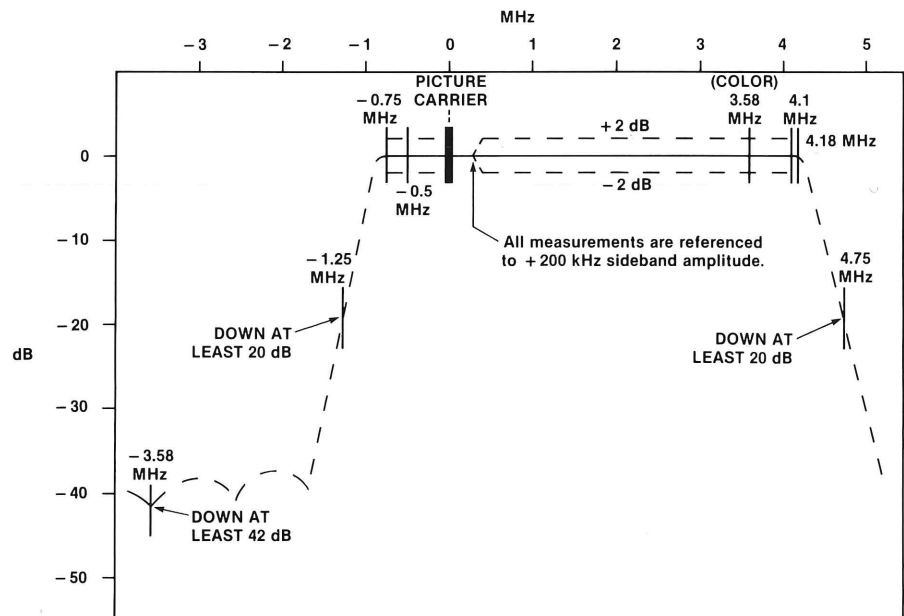

Figure 6-5. Idealized NTSC color transmitter response.
5. Check the modulator's response with respect to figure 6-5.
8. On the 1405, turn on the 1.25, 3.58 and 4.75 MHz markers. Adjust the INTENSITY and WIDTH controls for pleasing markers. Verify that the lower 3.58 MHz sideband and channel edge amplitudes are within specified limits (figure 6-5).